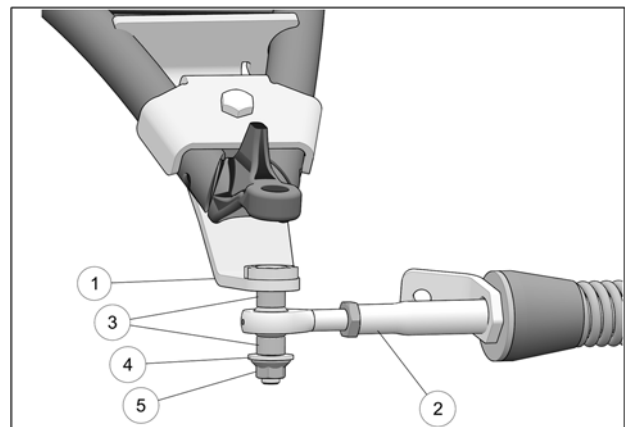

Fig. 15
- Attach the stabilizing rod (2) to the anchor bracket (1), using the two spacer bushings (3), flat washer (4) and nut (5). Torque to 70 N•m [52 lb•ft]. Refer to Fig. 15